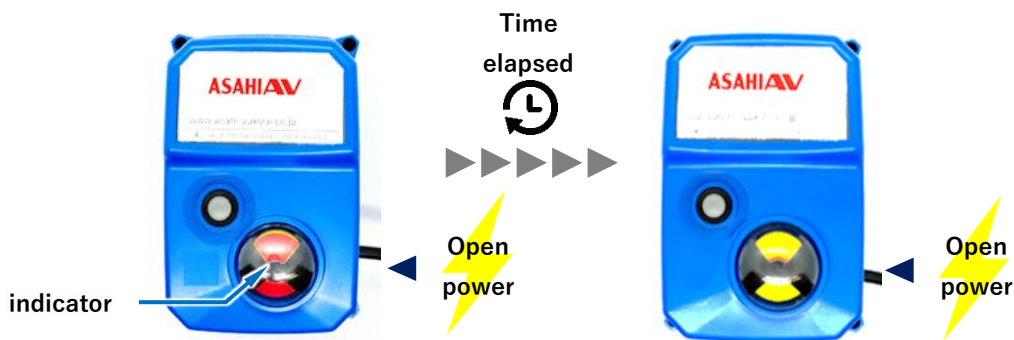

Figure 7.2-2 Left-open control
- ① Confirm that the actuator indicator is "solid red".
- ② Supply left-open power (power between blue and black of the pre-cable) from the distribution panel to the actuator.
- ③ After the time has elapsed, confirm that the actuator indicator automatically stops with "solid yellow" (Figure 7.2-2).